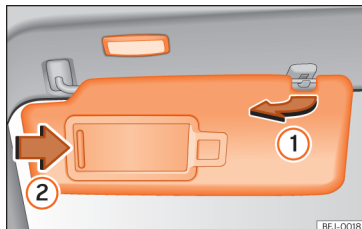

Fig. 111 Sun visor
- The sun visor can be pulled out of its mounting and turned towards the door »» Fig. 111 **1**.